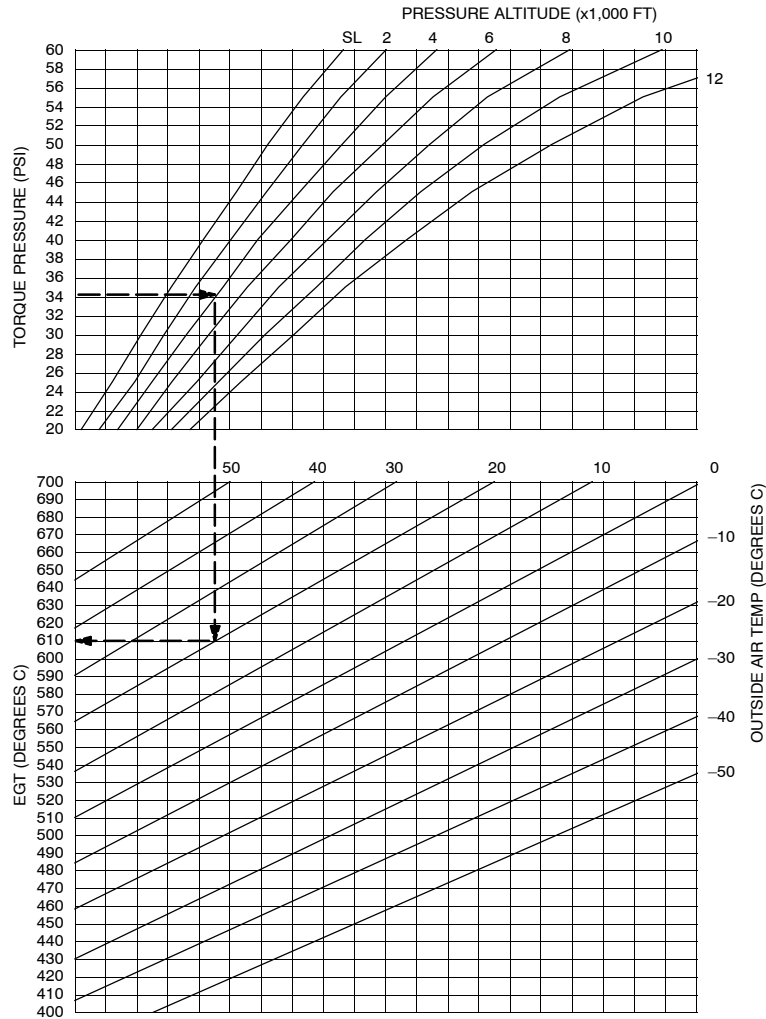

Figure 5-3. Power Assurance Chart
| Power Assurance Chart (Figure 5-3) | 5-6 |
6. Enter power assurance chart (Figure 5-3) with chart torque; move right to pressure altitude, then down to ambient temperature, then left to chart EGT.